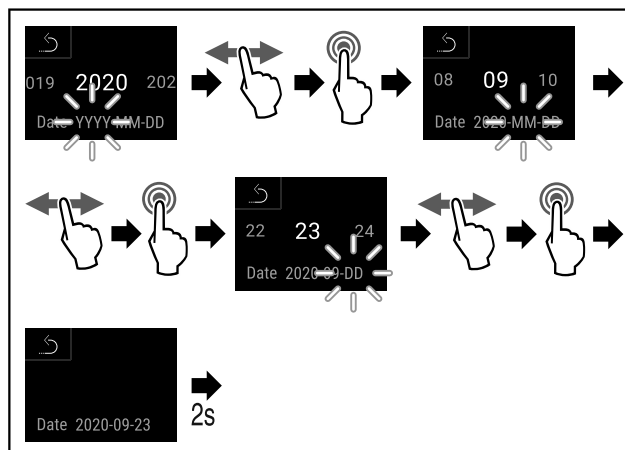

Fig. 55
- ▶ Complete steps (see Fig. 55).